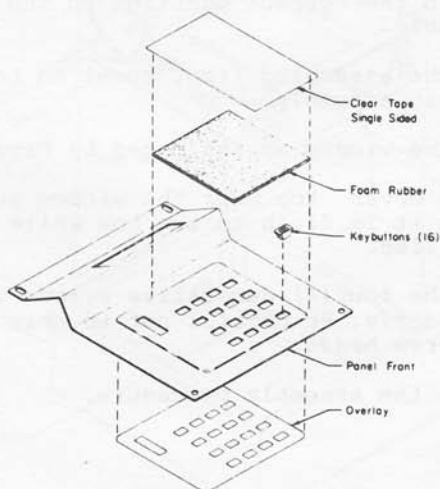

Figure 7
- [✓] After locating the panel front and the overlay, remove the paper backing from the overlay and stick it to the painted surface of the panel. Carefully align the hole cutouts of the two(2) pieces before pressing down the overlay. Reference Figure 7.
- [✓] Take the panel front and suspend upside down on two(2) blocks. The blocks prevent the keybuttons from touching the work table during assembly.
- [✓] Install all sixteen(16) keybuttons as shown in Figure 7.
- [✓] Place the foam rubber over all the keybuttons as shown in Figure 7.